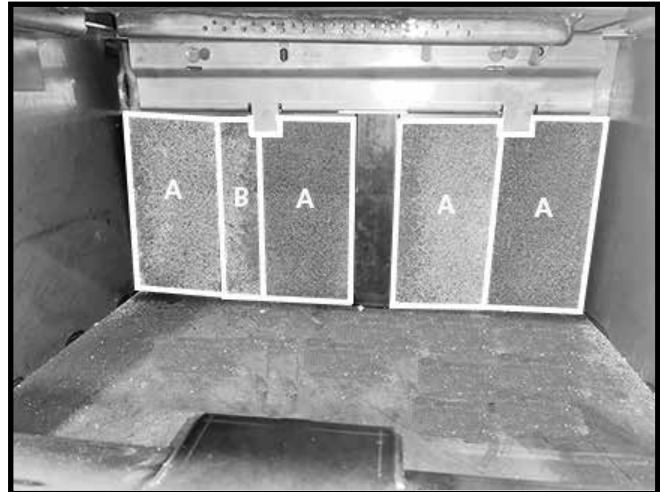

Figure 27: Left side rear wall A and B brick placement.
2. On the left side of the rear wall, stand two "A" bricks with one "B" brick in between them. Slide the bricks toward the center of the rear wall (Figure 27)